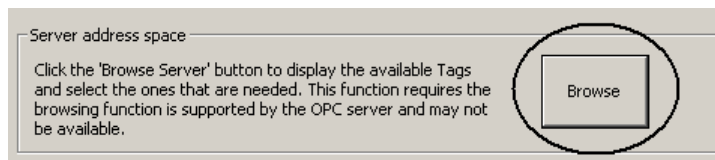

Fig 12 Selecting the OPC server browsing
- Select the 'Browse' button (Fig 12) in the 'Server address space' section of the form